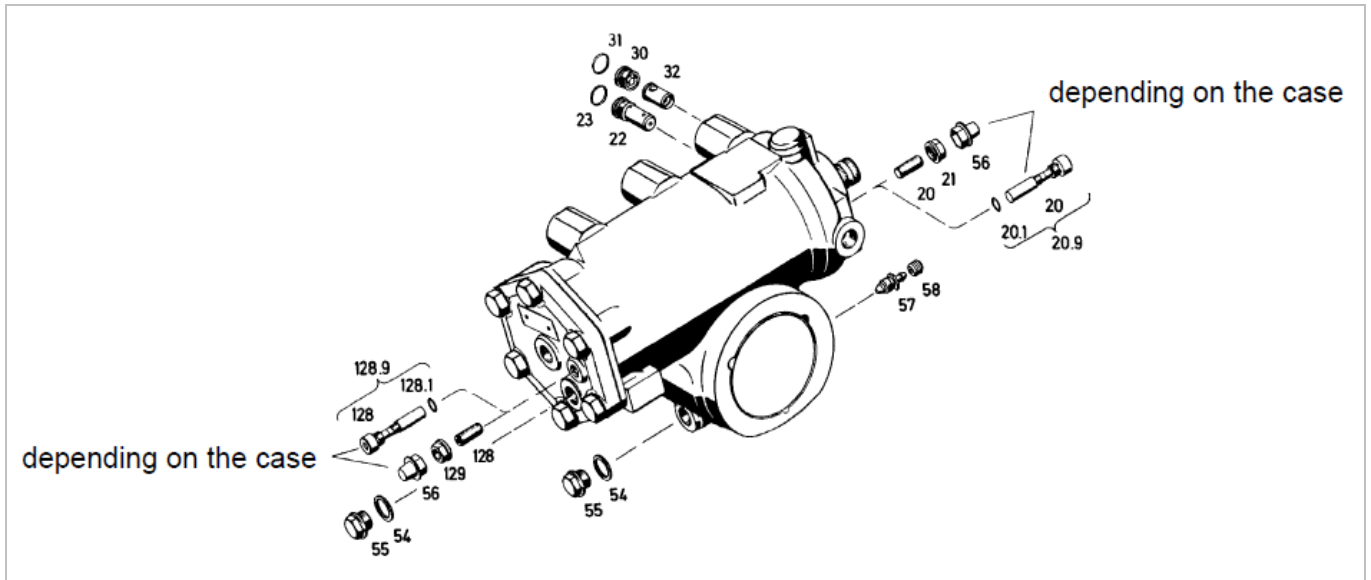

Fig. 16: Repair of external leakages
1. Unscrew the valve insert (22) from the housing (Fig. 16)
3. If the pressure does not conform to the specified value or if there is any leakage, replace the complete valve insert (22).
4. Fit a new greased O-ring (23) to the valve insert (22) and screw it in again.